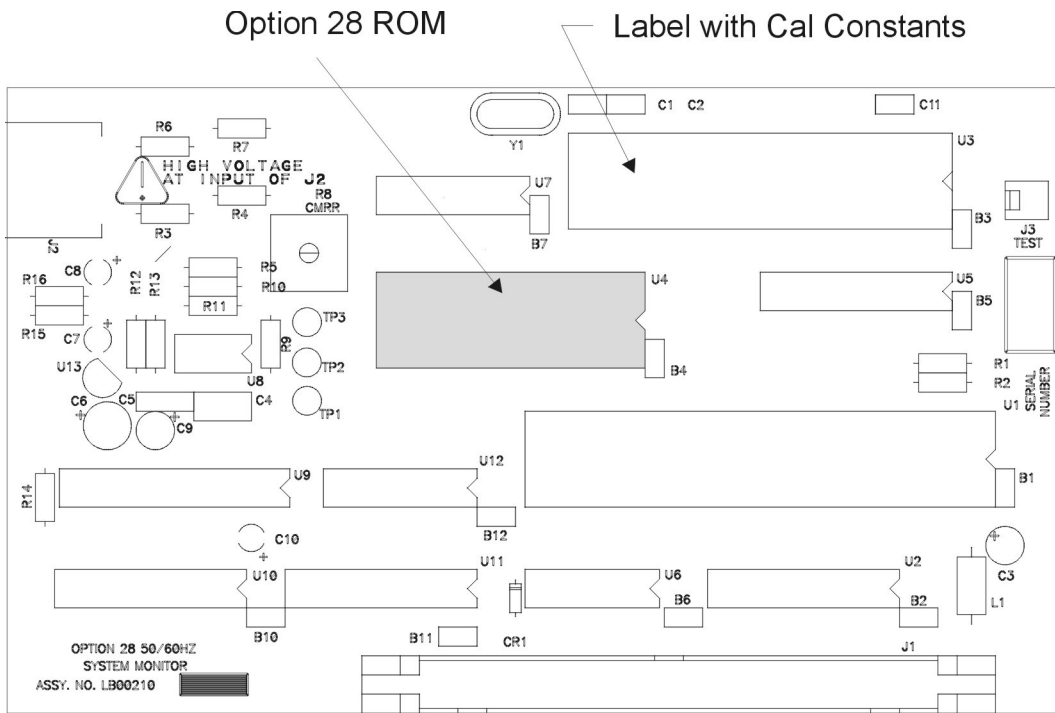

Figure 1 – Option 28 Board Layout
1. Locate the Option ROM (located at U4) on the Option 28 board (see Figure 1), remove and replace with the new Option 28 ROM (included). Be careful for correct orientation and that all of the pins fit in the ROM socket.